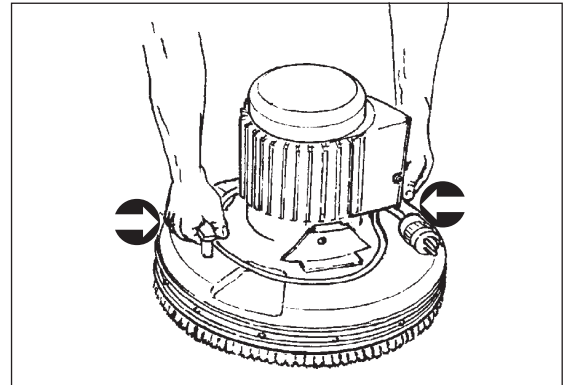

Figure 3
5. To lift the sanding unit grasp the assembly at the lifting sites. (see Figure 3)